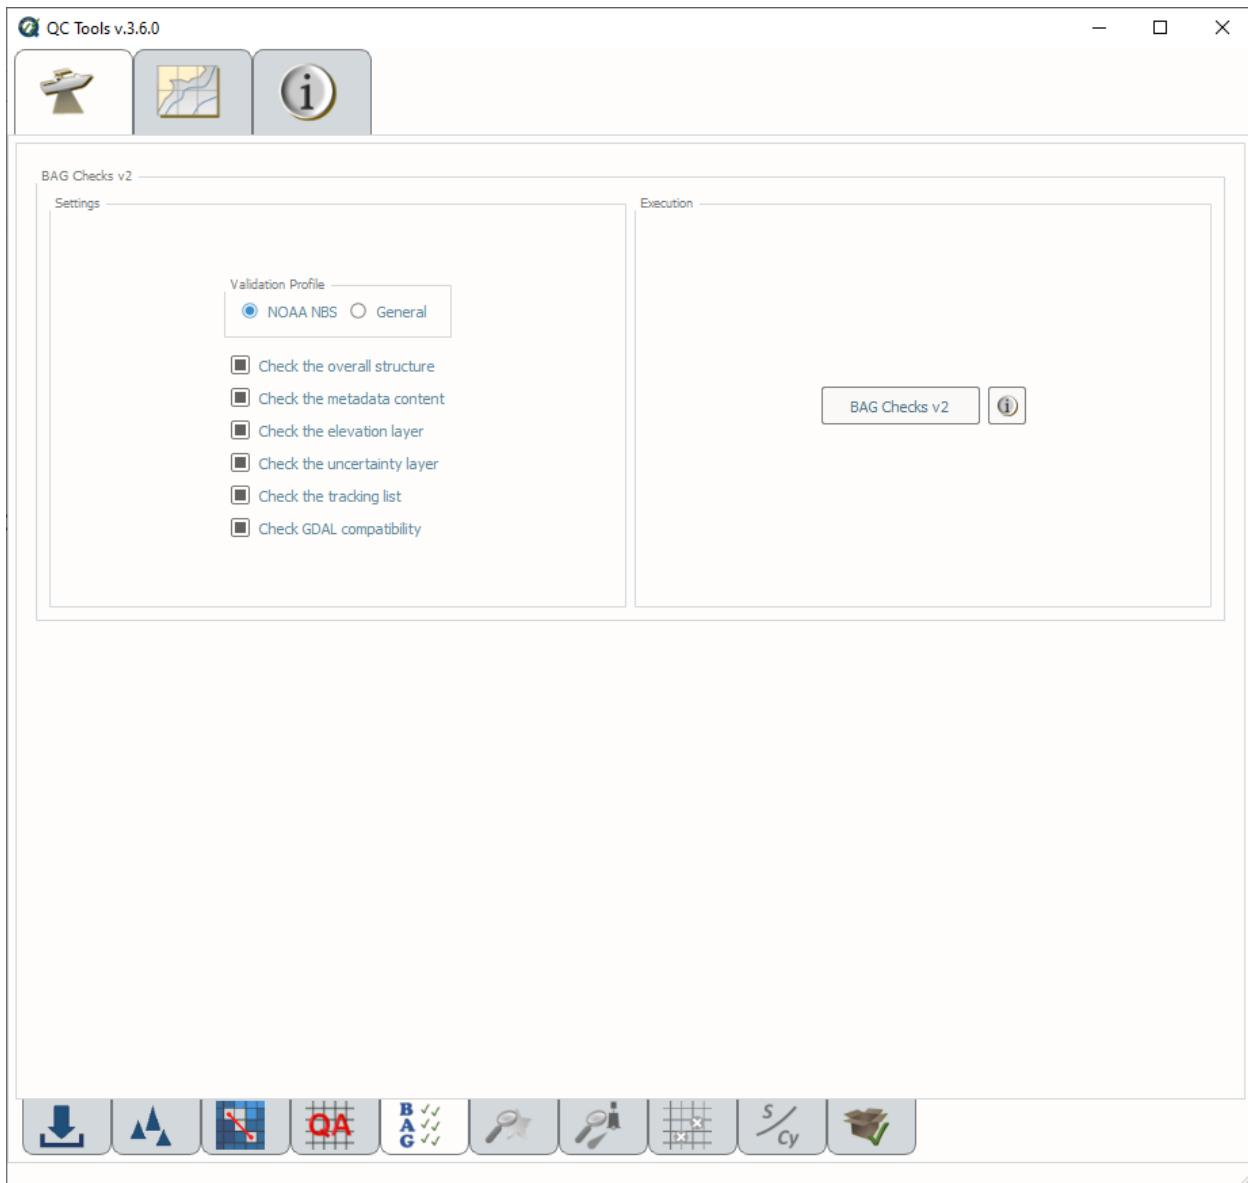

Fig. 2.36: The **BAG Checks** tab.
- Select the **BAG Checks** tab (Fig. 2.36) on the bottom of the QC Tools interface.